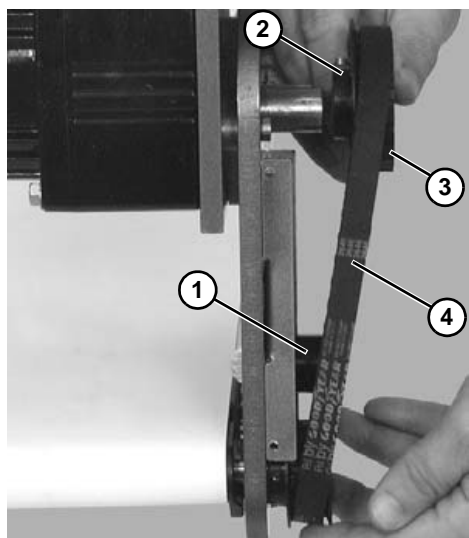

Figure 26
*If drive pulley (**Figure 26, item 3**) was replaced, wrap timing belt around drive pulley and complete step 3.*
2. Loosen tensioner (**Figure 26, item 1**).
3. Loosen drive pulley set screws (**Figure 26, item 2**).
4. Remove drive pulley (**Figure 26, item 3**) and timing belt (**Figure 26, item 4**).
*If drive pulley (**Figure 26, item 3**) was removed, wrap timing belt around drive pulley and complete step 11.*